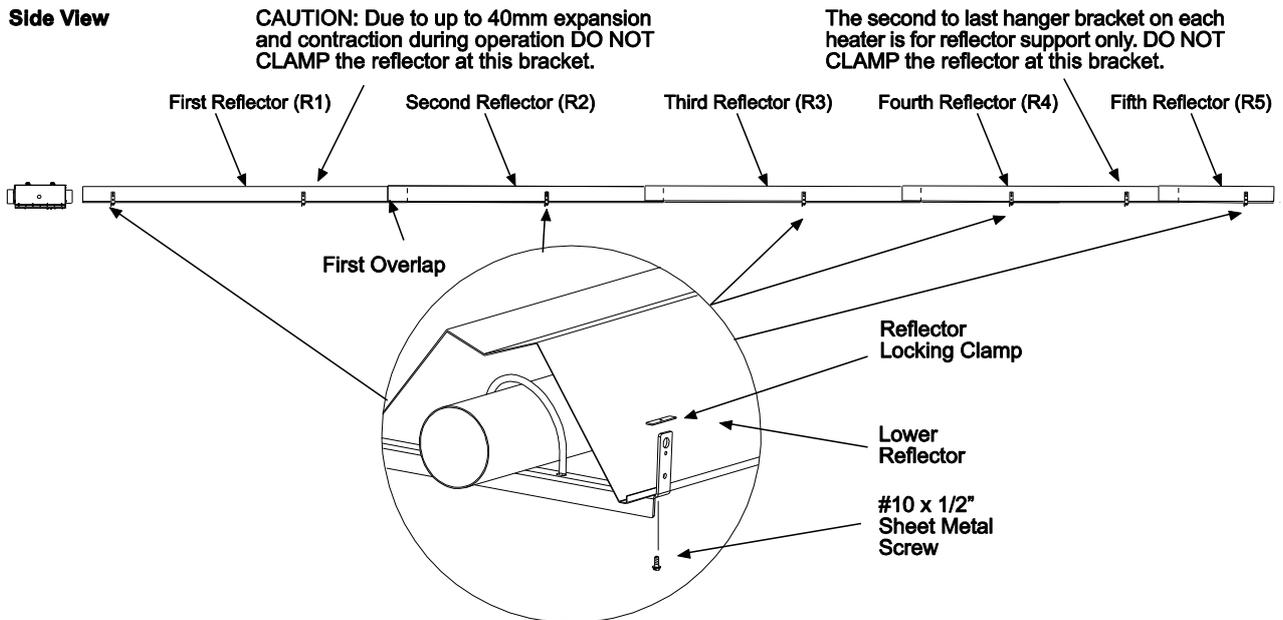

Fig. 22f
- VI. Repeat this at each hanger bracket specified in figure 22f. **Note:** the reflector is NOT clamped at the second and second to last hanger bracket on every model.